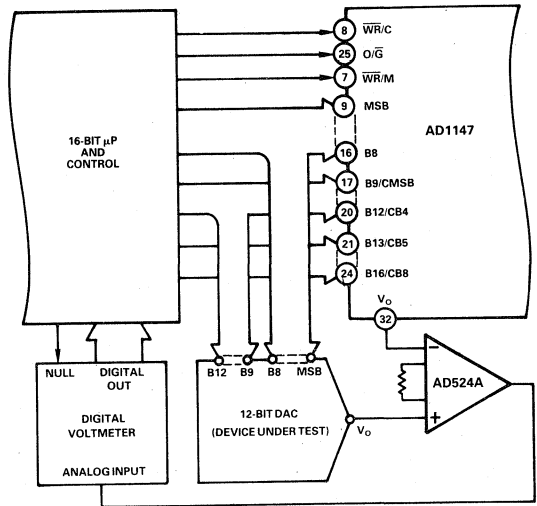

Figure 9. DAC Testing
**DAC TESTING** (refer to Figure 9).